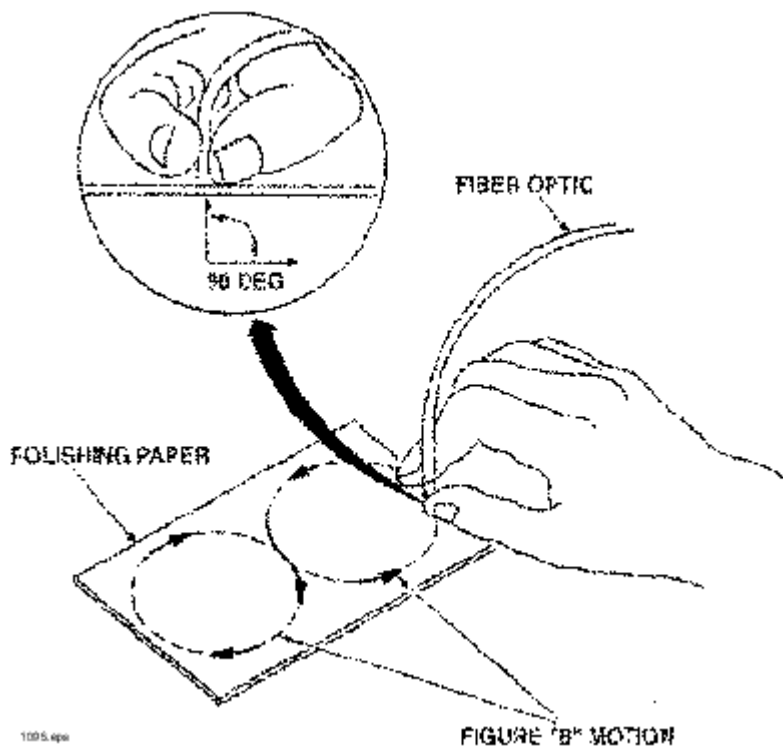

Figure 3. Pattern and orientation of the optical fiber during polishing.
2. Wet the polishing paper with water or light oil and place it on a flat, firm surface. Hold the optical fiber upright, at right angles to the paper, and polish the fiber tip with a gentle "figure-8" motion as shown in **Figure 3**. You may get the best results by supporting the upright fiber against some flat object such as a portion of the printed wiring board.